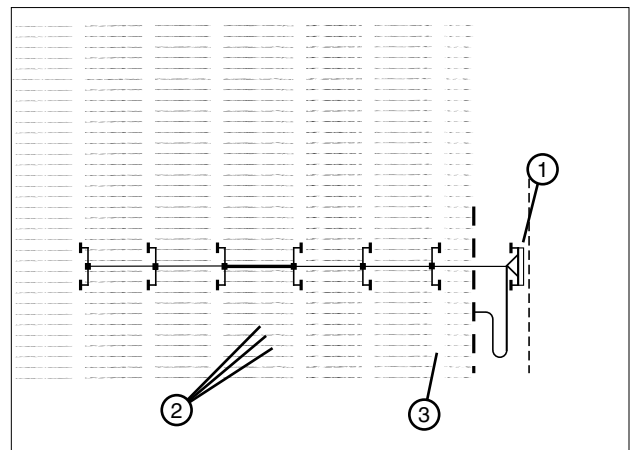

Figure 37-2 Perpendicular Travel
1. Plant the crop perpendicular to the linear system. See Figure 37-2.